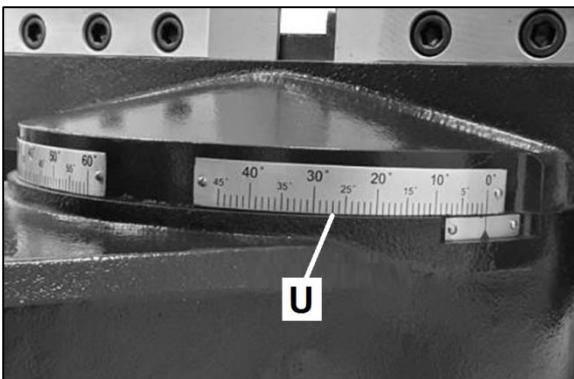

Figure 8-2: Mitre Scale
9. Rotate the saw bow to the desired angle by following the scale (U, Fig 8-2).